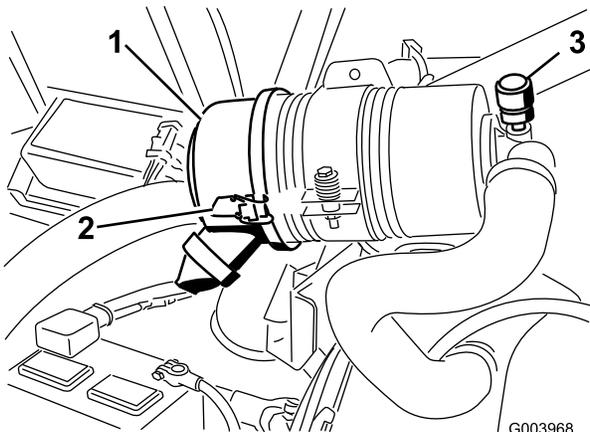

Figure 49
Service the air cleaner filter only when the service indicator (Figure 49) requires it. Changing the air filter before it is necessary only increases the chance of dirt entering the engine when the filter is removed.
1. Release the latches securing the air-cleaner cover to the air-cleaner body (Figure 49).